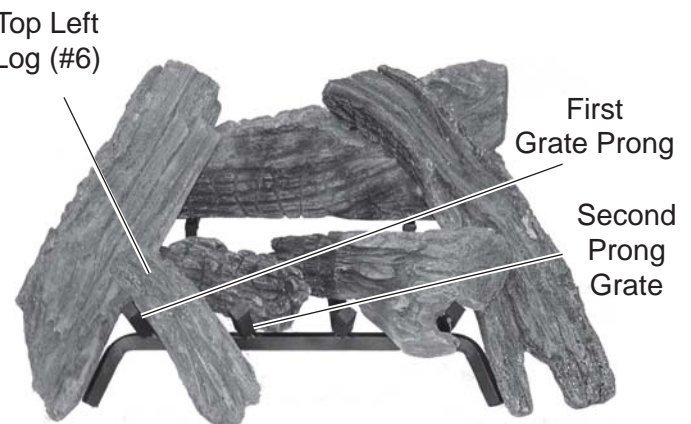

Figure 73 - Resting Top Left Log (#6) on Bottom Left Log and Back Log
7. Place end of Top Left Log #6 on bottom left log. Rest the other end between the first and second grate prongs. See Figure 73.